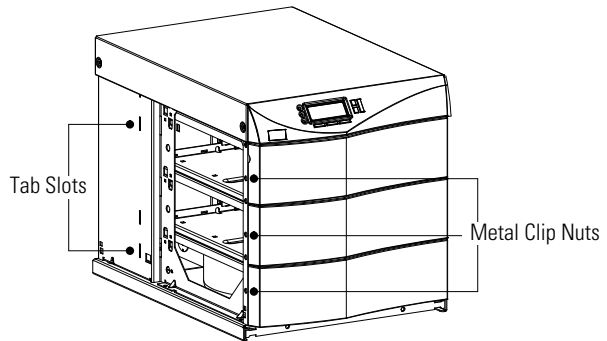

Figure 9. Metal Clip Nut and Tab Slot Locations
4. Install three metal clip nuts onto each side flange (six clip nuts on 6-slot cabinets) along the front of the UPS cabinet (see Figure 9).
Insert the two offset tabs on the rear edge of the ear into the matching tab slots on the cabinet side frame (see Figure 9). Pivot the ear forward until it is flush against the UPS cabinet side frame. Using three $1/4\text{-}20 \times 1/2\text{'}$ Phillips-head bolts, screw the bolts into the metal clip nuts installed in Step 4.